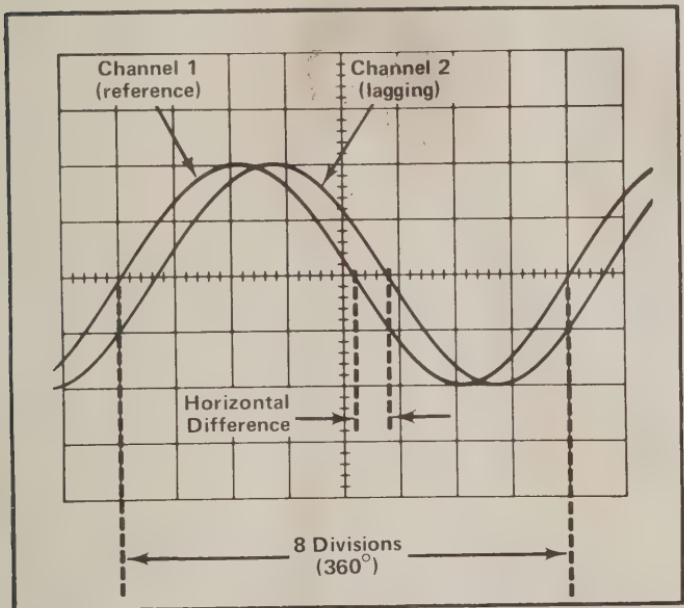

Fig. 10. Measuring phase difference.
10. Turn the A VARIABLE control until one cycle of the reference signal (Channel 1) occupies exactly eight divisions between the first and ninth graticule lines (see Fig. 10). Each division of the graticule represents 45° of the cycle ($360^\circ \div 8$ divisions = 45° /division). The sweep rate can be stated in terms of degrees as 45° /division.
Example. Assume a horizontal difference of 0.6 division with a sweep rate of 45° /division as shown in Fig. 10.